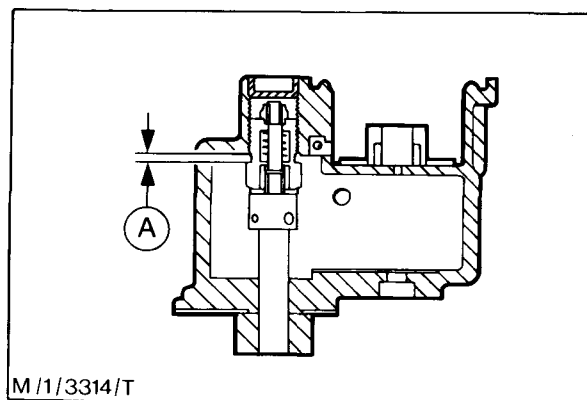

Fig. 56 - Maximum Fuel Screw Correctly Installed
3. Fit the maximum fuel screw assembly into the housing and screw it into the bore leaving a 0,5mm (0,02in) gap between the top of the hexagon nut and the housing (Fig. 56).